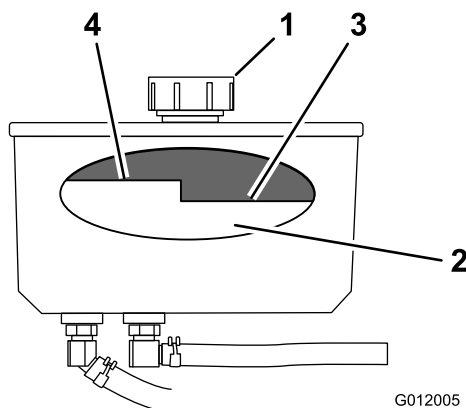

Figure 80
4. Clean area around cap and filler neck of hydraulic tank (Figure 80).
5. Remove cap from filler neck. Look inside to check the fluid level in the reservoir. (Figure 80).
Note: The fluid level should be below the hot level of the baffle, when the fluid is warm (Figure 80).